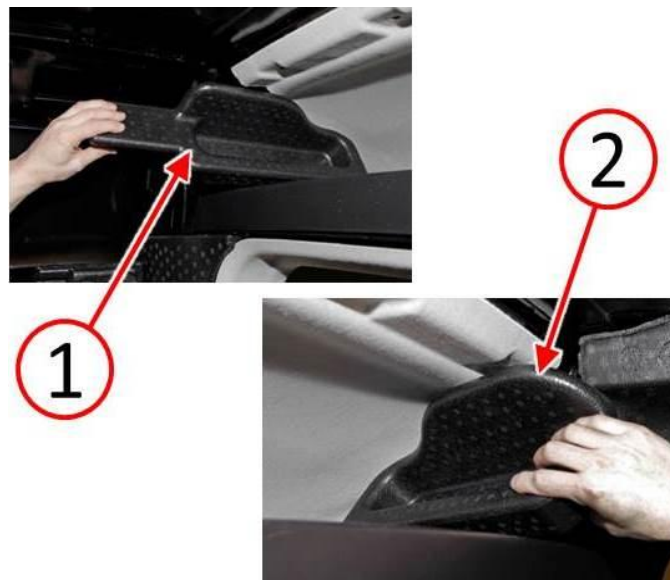

Fig. 12 Remove Roof Absorbers
4. Remove the left side roof absorber (1) from the upper compartment (Fig. 12).
5. Remove the right side roof absorber (2) from the upper compartment (Fig. 12).